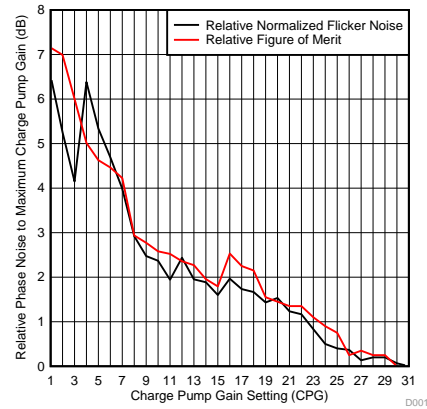

Figure 3.  $K_{PD}$  Impact on PLL Noise Metrics
**Figure 3** shows the relative changes with the normalized PLL noise and figure of merit as a function of charge pump gain. The PLL phase noise changes as a function of the charge pump gain.